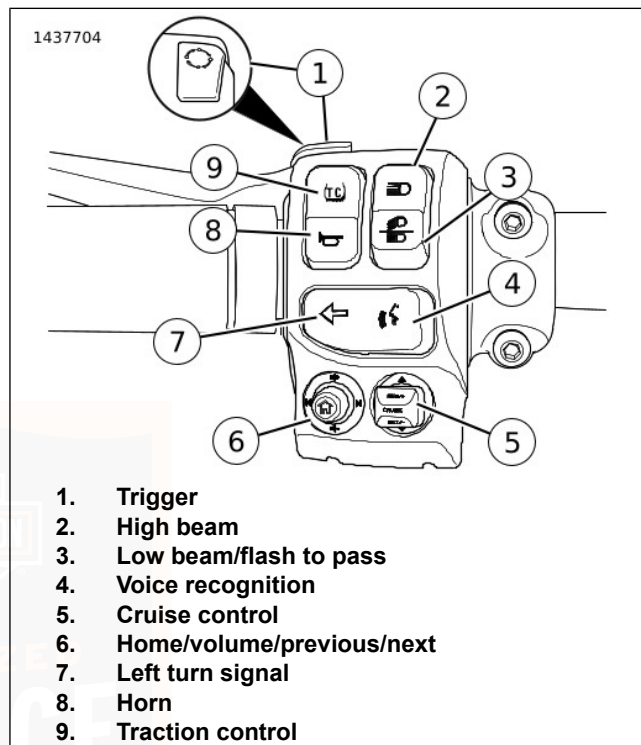

Figure 29. Left Hand Switch Module (typical)
See Figure 29. **Vehicle off:** Press the trigger switch (1) to display the accumulated mileage in the odometer.
See Figure 29. Press the high beam switch (2) to activate the high beam. The (blue) high beam indicator lamp is lit when the high beam is on. Refer to Table 27.
Low beam: See Figure 29. Press the bottom of the switch to (3) activate the low beam.
See Figure 29. The voice recognition switch (4) activates the voice recognition features on equipped vehicles. With a headset connected, press the voice command switch. The radio shows a list of available commands. Speak the desired command into the headset microphone. See the BOOM! BOX OWNER'S MANUAL.
See Figure 29. The CRUISE/SET/RESUME switch (5) automatically regulates the speed of the vehicle. See OPERATION > CRUISE CONTROL (Page 101) for detailed operation. Refer to Table 27
See Figure 29. The HOME/VOLUME/PREVIOUS/NEXT (6) five-way switch operates radio features on equipped vehicles. See the BOOM! BOX OWNER'S MANUAL.
Activate: See Figure 29. Press the left turn signal switch (7) to activate the left turn signal. Refer to Table 27.
See Figure 29. The horn is operated by pressing the horn switch (8). The horn can be activated for up to 10 seconds at a time. If the horn switch is held for a longer period, the horn automatically deactivates. Refer to Table 27.
See Figure 29. The traction control switch (9) activates and deactivates the traction control system. Refer to Table 27.
The trigger switch is located on the front of the left hand control. See Figure 29.